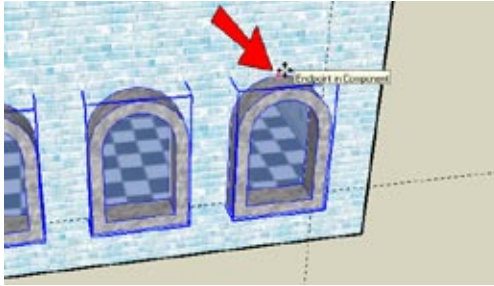

Figure 1-29
10. To make additional evenly spaced rows, select all of the windows, and for the first move point, click any one of the windows at its top point (Figure 1-29).